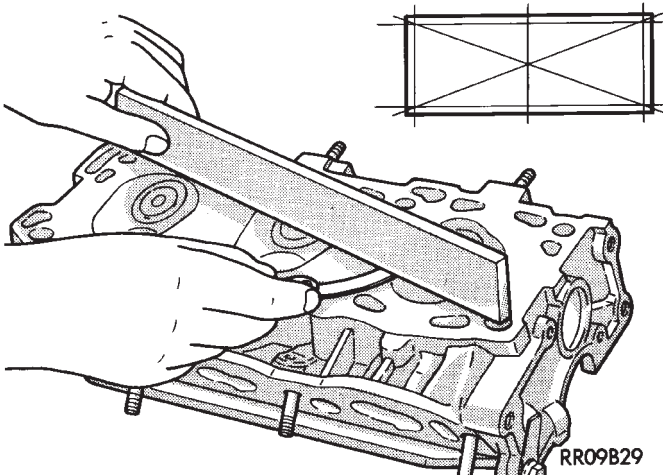

Fig. 7 Check Cylinder Head
(1) Before cleaning, check for leaks, damage and cracks.
(2) Clean cylinder head and oil passages.
(3) Check cylinder head for flatness (Fig. 7).
(4) Inspect all surfaces with a straightedge if there is any reason to suspect leakage. If out of flatness exceeds .019mm (.00075 inch), times the span length in inches in any direction, either replace head or lightly machine the head surface. As an example, if a 12 inch span is 1mm (.004 inch) out of flat, allowable is $12 \times .019\text{mm}$ (.00075 inch) equals .22mm (.009 in.) This amount of out of flat is acceptable.